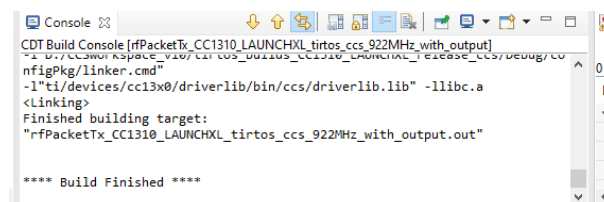

Figure 6: Successful build notification
4. If the build is successful a notification such as the one shown in Figure 6 will be displayed.